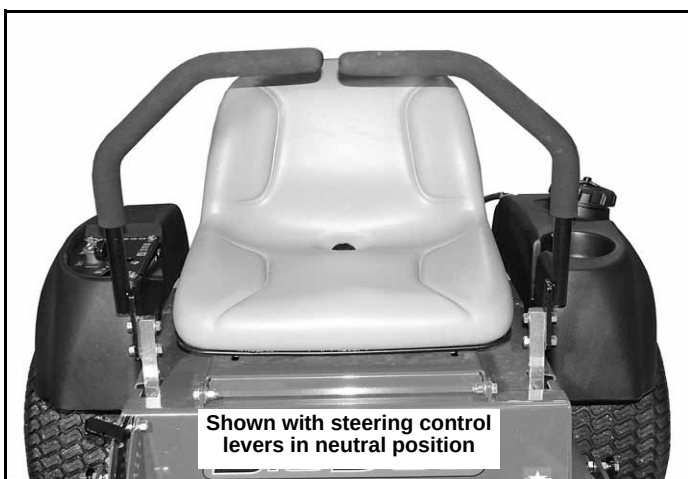

Figure 4-3
7. Start the engine. Move the steering control lever to barely engage the brake (neutral) slot and hold it in that position (Do not engage the steering control lever far enough to engage the brakes in the brake slot) (Figure 4-3).